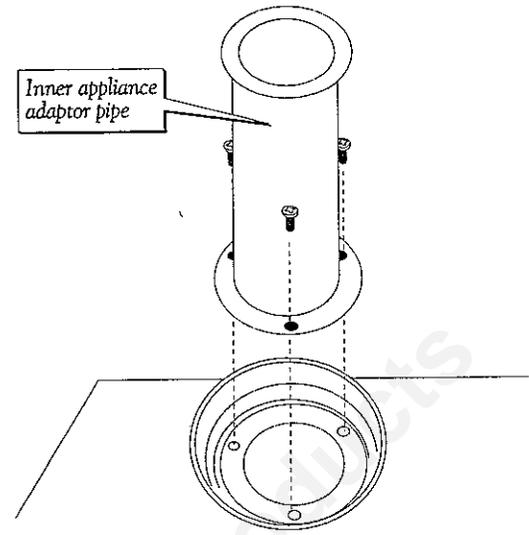

FIGURE 17. Attach inner adaptor to flue collar
3. Attach the inner adaptor pipe to the fireplace with three 1/4-20 x 3/8" phillips head machine screws. Fig. 17.